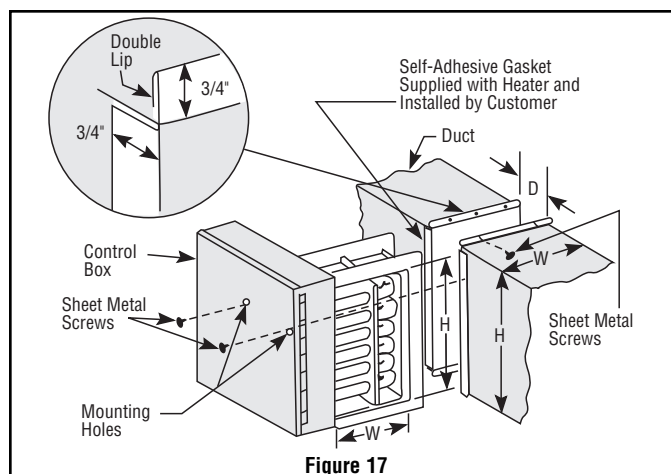

Figure 17
2. Form mounting flanges on cut edges of duct as shown in Figure 17. Omit flange in side when terminal box overhangs.